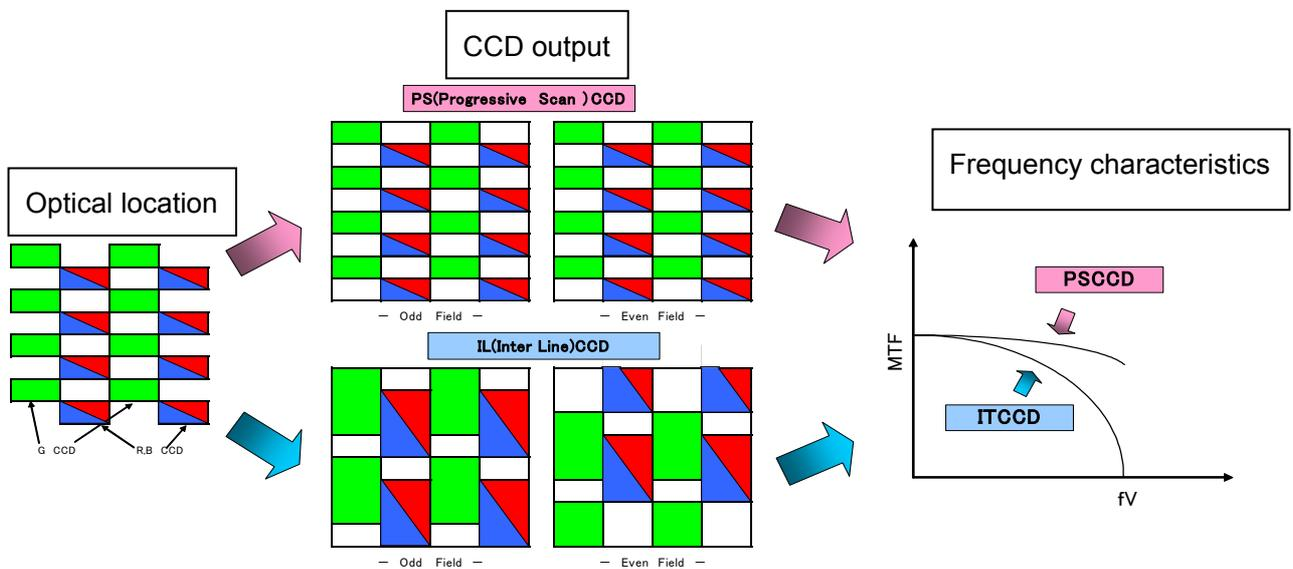

Figure 2: Frequency Characteristics
As a result, the system records a higher resolution HD image than the interline (IL) CCD system shown in figure 2.